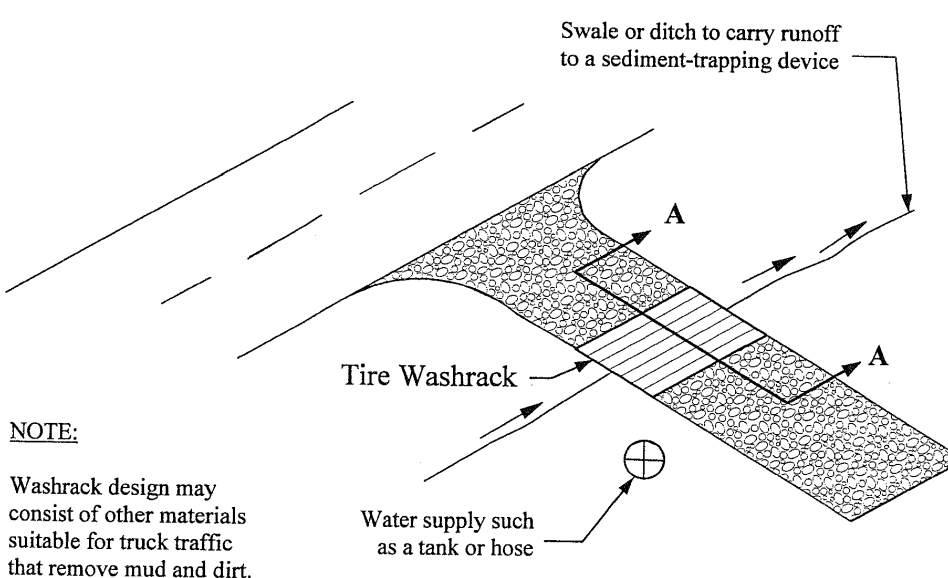

Figure 2
**Washing:** If the action of the vehicle traveling over the gravel pad does not sufficiently remove the material, the tires should be washed prior to exit onto public roadways. When washing is required, the wash rack should be designed for the anticipated traffic loads and placed on level ground, on a pad of coarse aggregate (such as TDOT #57). A typical wash rack is shown in Figure 2. The wash rack design may consist of other materials suitable for truck traffic that remove mud and dirt. The wash rack should have provisions that intercept the sediment-laden runoff and direct it into a sediment trap or sediment basin.